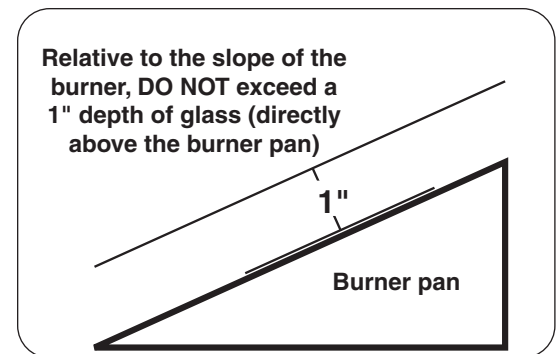

Fig. 22-2 Proper media placement
- Relative to the slope of the burner, DO NOT exceed a 1" depth of glass (directly above the burner pan) as shown in Fig. 22-2. Any additional glass/gems above the burner may cause unsafe operation.